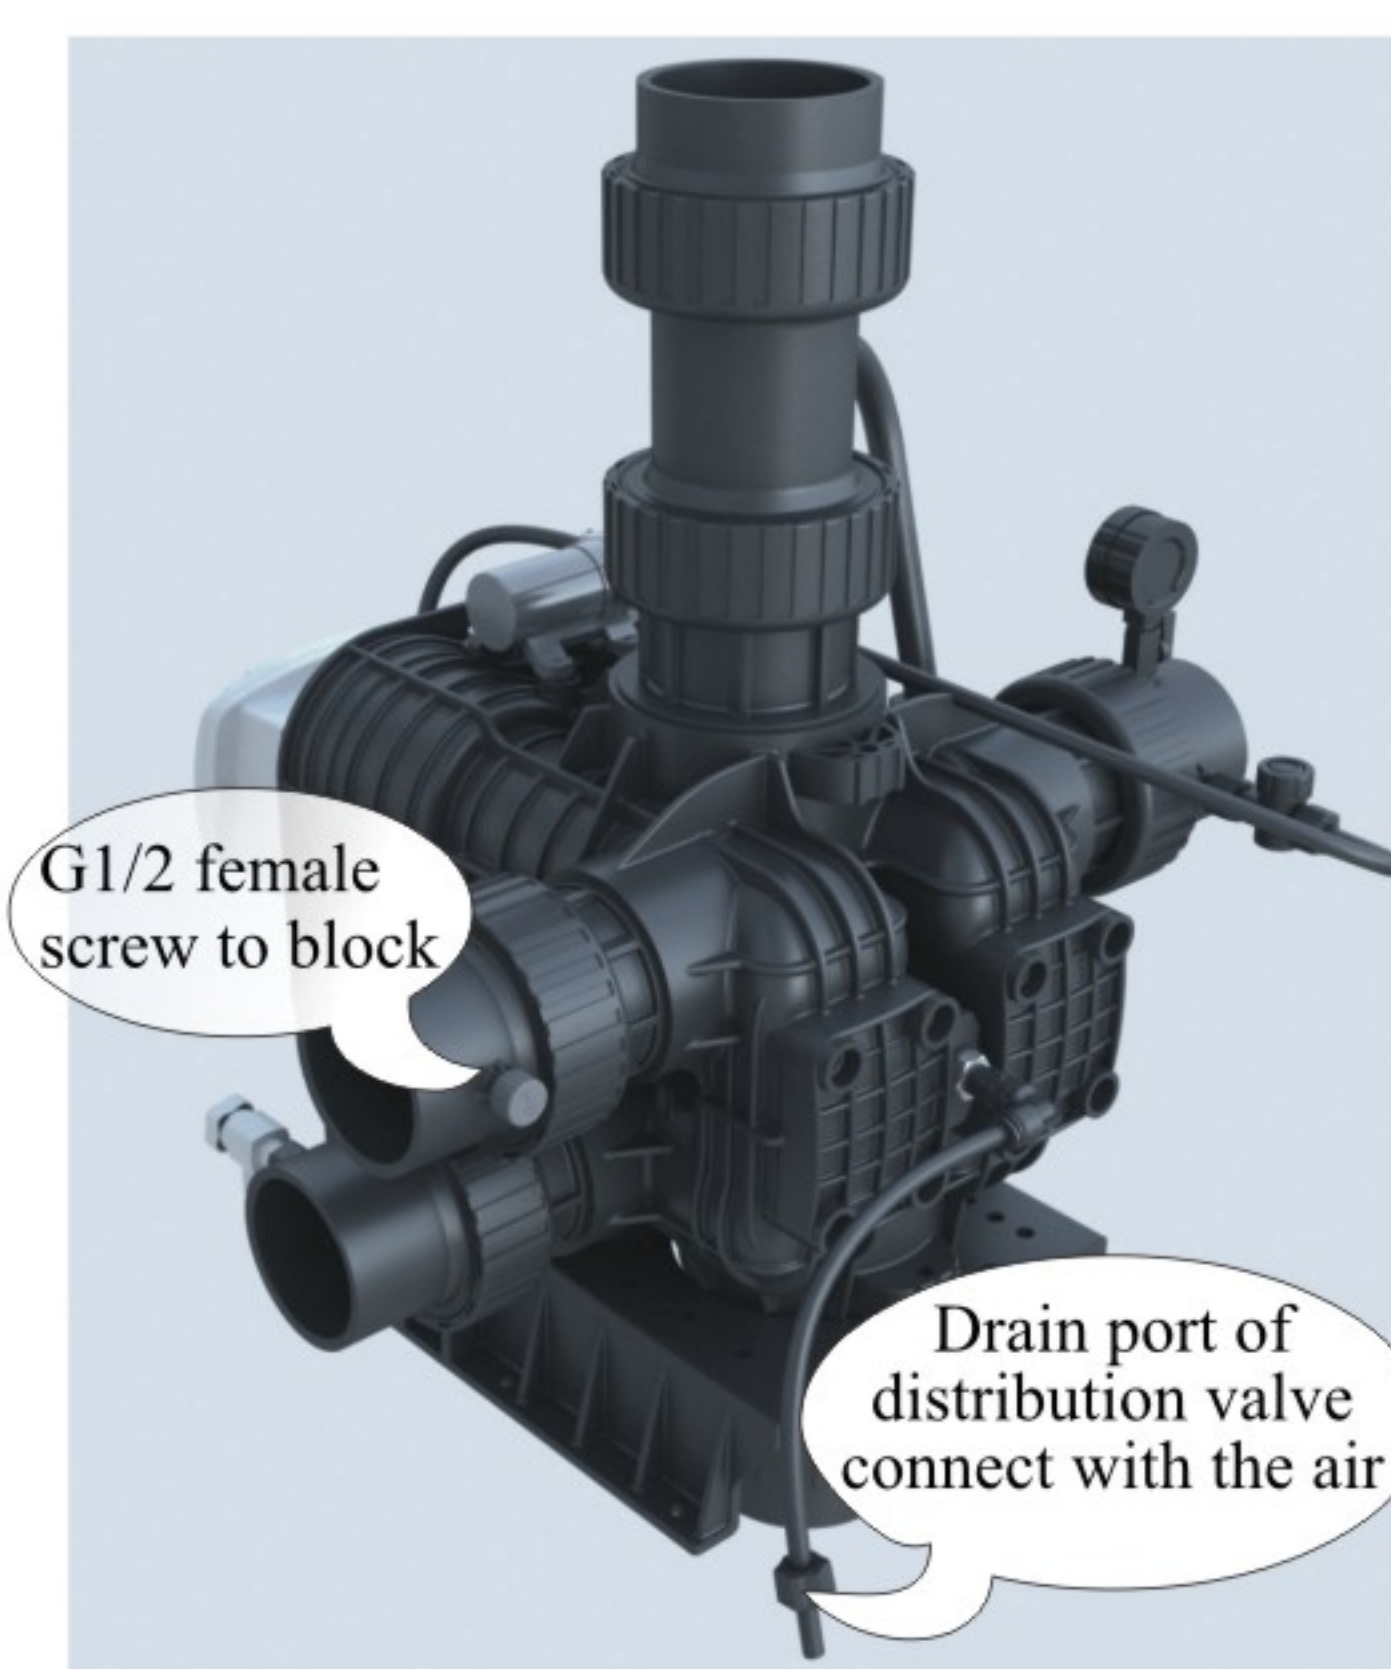

Figure 1-6
- The drain pipeline shouldn't be too long, and the drain should no more higher than the valve. For softener, drain pipeline should no longer than 5m; For filter, it should no longer than 2m. If the drain pipeline is longer or higher than the requirement, please disassemble the connector between distribution valve and drain and let the drain of distribution valve connect with the air. Use G1/2 female screw to block the G1/2 male of drain. Please refer the Figure 1-6.